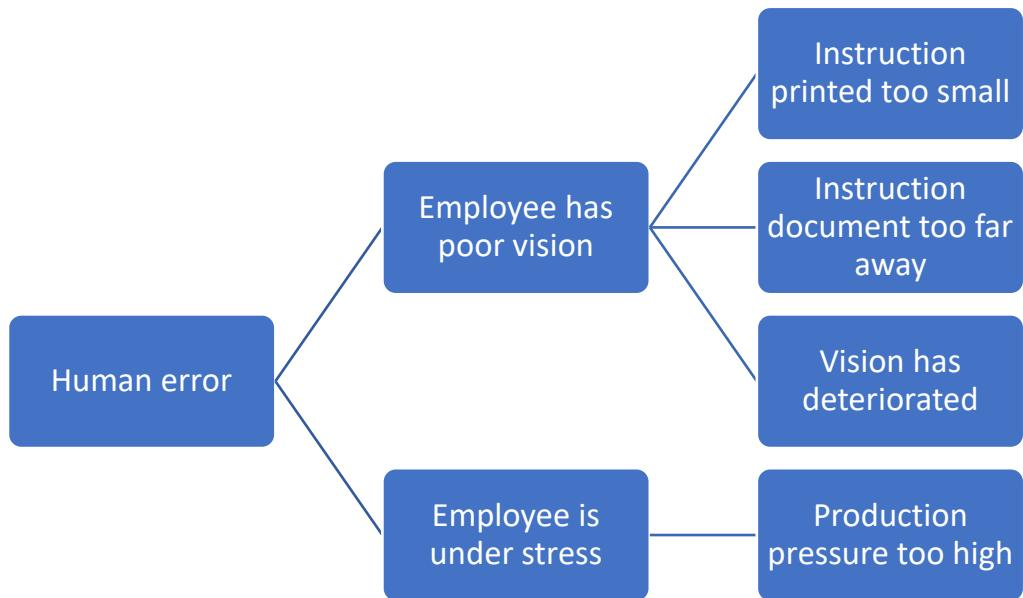

Figure 1 "Child's play" cause analysis using "why" questions. Each connecting stroke stands for a "why" question.
- With this "child's play" questioning method, you can get closer to the actual cause relatively easily, as shown once again in Figure 1: